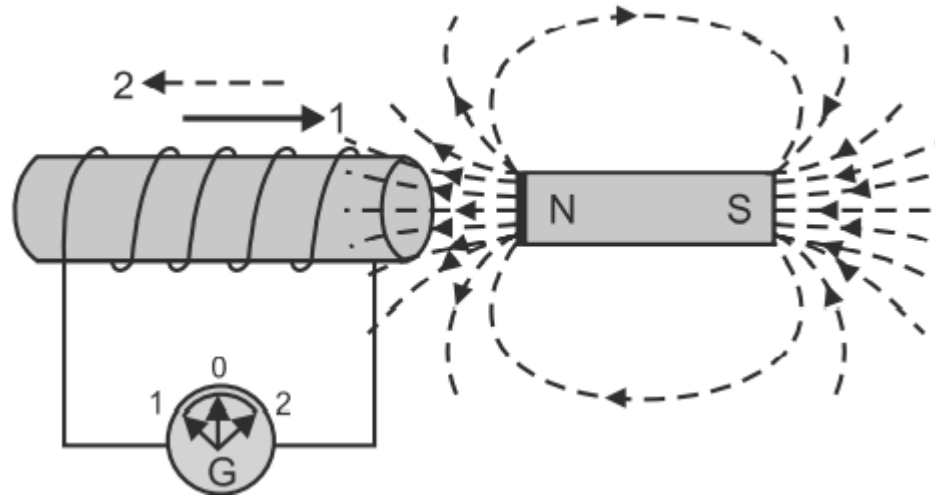

Fig. 2.3 Coil in motion
- **On the other hand**, if the bar magnet is kept stationary and the coil is brought nearer to the magnet or away from the magnet, as shown in Fig. 2.3: